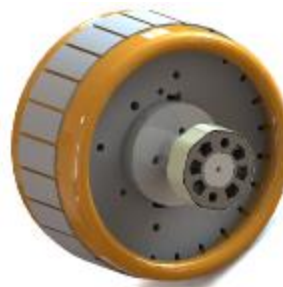

Figure 14.24: Exciter rotor and PMG Rotor
2. Assemble the exciter rotor and the PMG rotor with the new bushing, according to Figure 14.24.